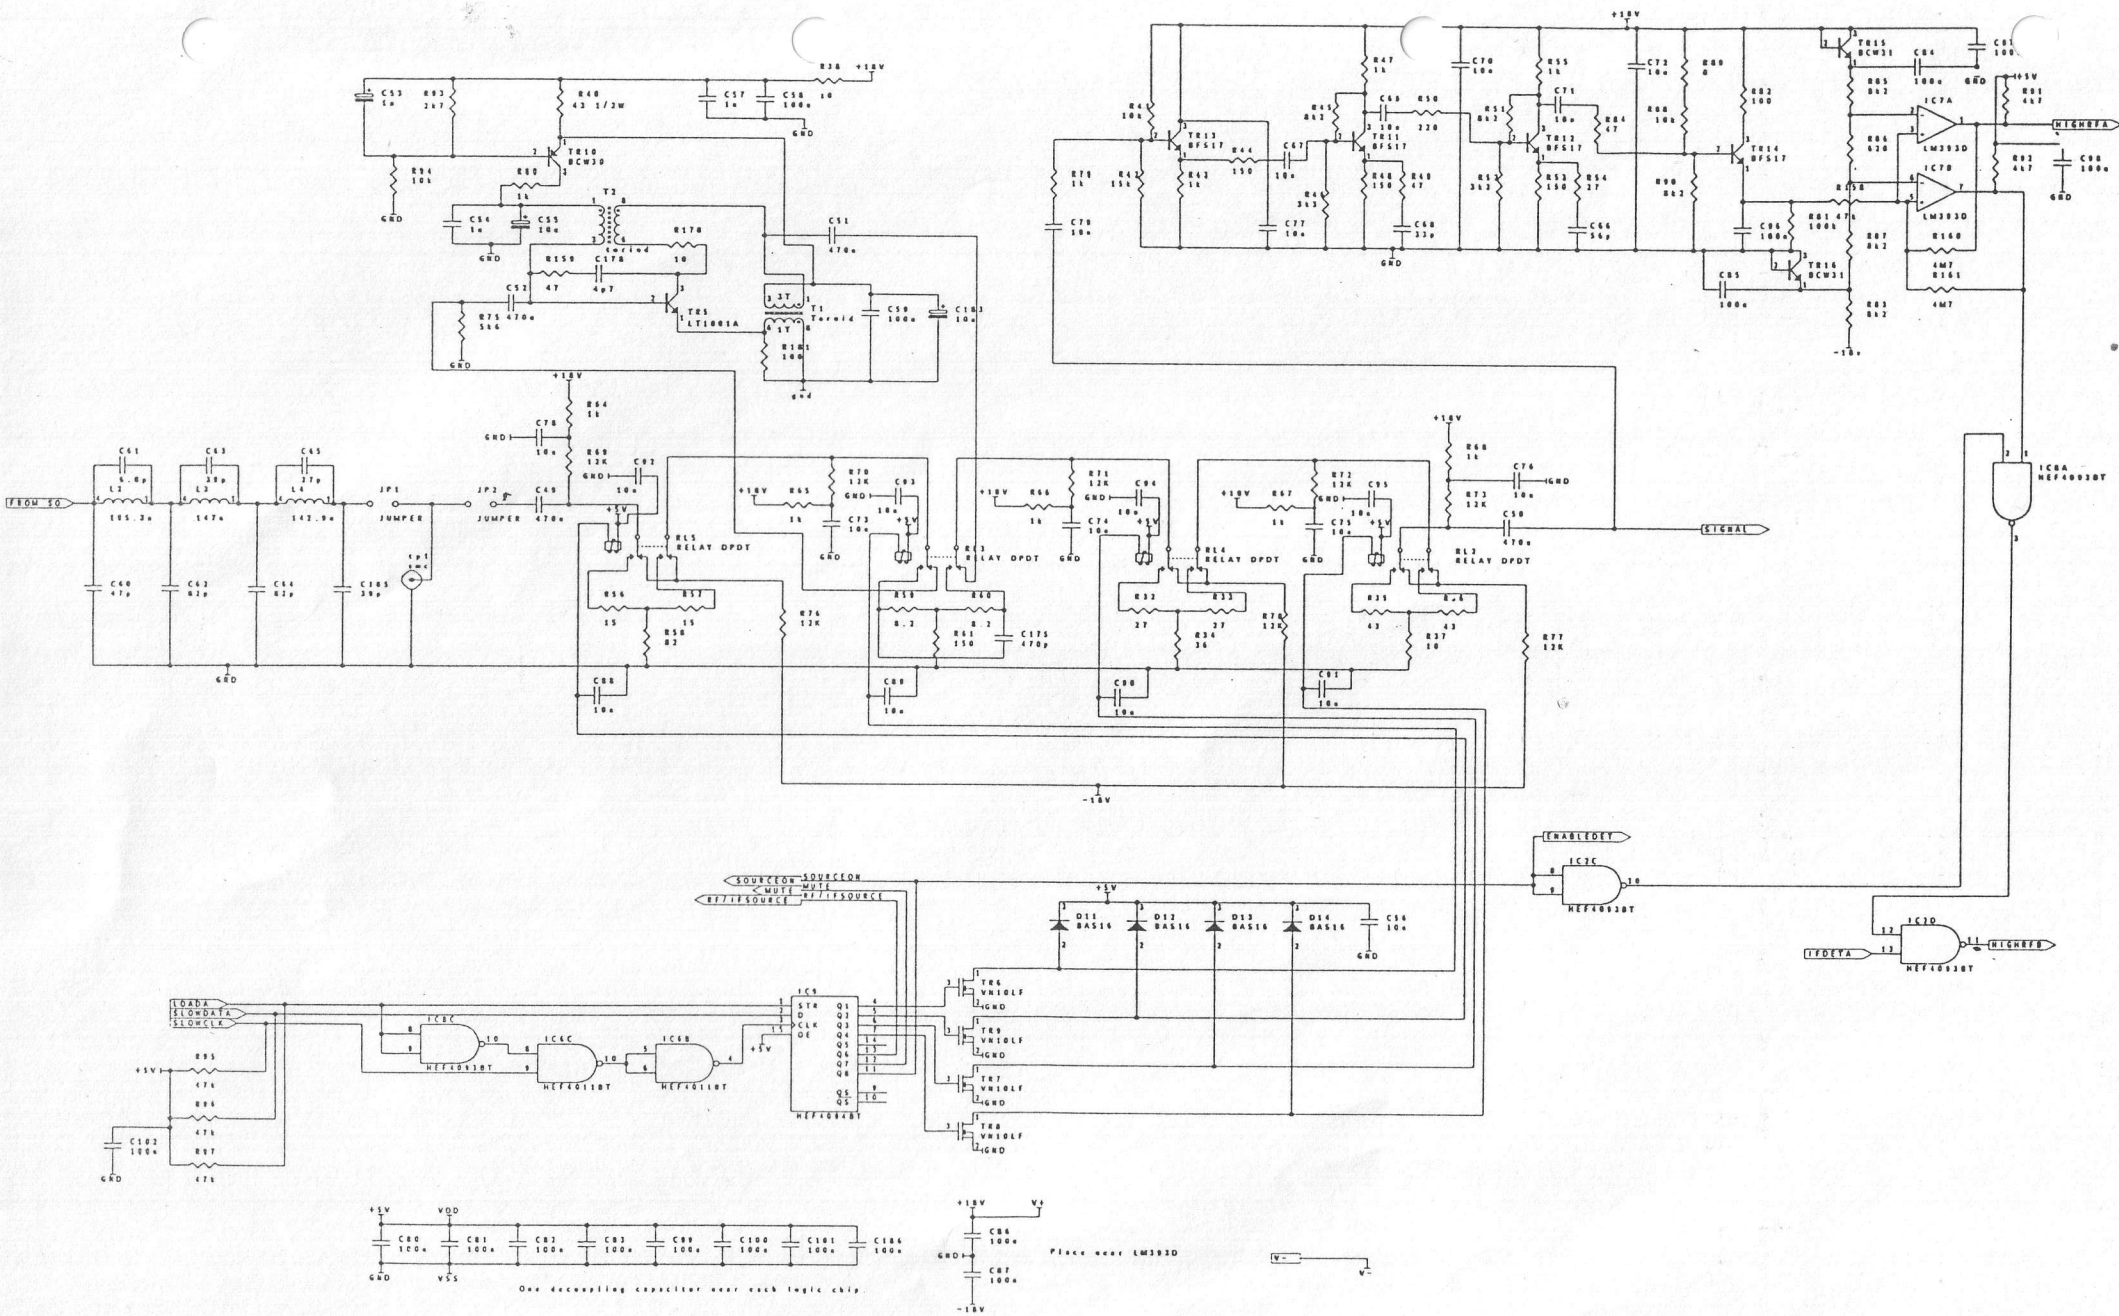

Figure 5 - RF Module Circuit Diagram
- Figure 5 IF Module Circuit Diagram, sheet 3 of 3